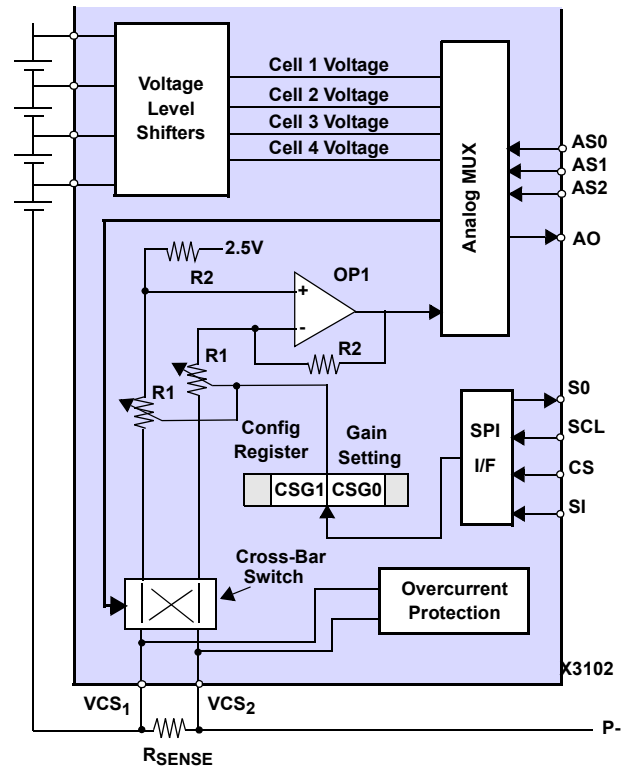

FIGURE 15. MONITOR CIRCUIT
The X3102 can be used to externally monitor individual battery cell voltages, and battery current. Each quantity can be monitored at the analog output pin (AO), and is selected using the analog select (AS0–AS2) pins (Table 25). Also, see Figure 15.
Since the value of the sense resistor (R_{SENSE}) is small (typically in the order of tens of $m\Omega$), and since the resolution of various A/D converters may vary, the voltage across R_{SENSE} (V_{CS1} and V_{CS2}) is amplified internally with a gain of between 10 and 160, and output to pin AO (Figure 15).